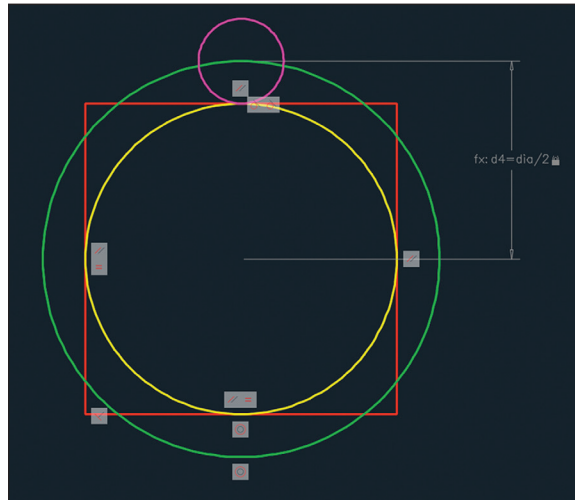

FIGURE 12.12 Adding the last dimensional constraint
- Click the Linear constraint tool in the Dimensional panel. Click the magenta circle, the yellow circle, and then a point off to the right to place the dimension line. Type $d4=dia/2$ and press Enter (see Figure 12.12). The center of the magenta circle is anchored effectively at the top quadrant (or top cardinal point) of the green circle.